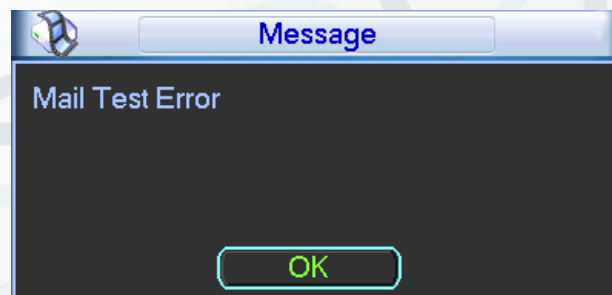

Figure 5-46
- **Interval:** Please check the above box to enable this function and then set the corresponding interval. The System can send out the email regularly as you set here. Click the Test button; you can see the corresponding dialogue box to see the email connection is OK or not (see Figure 5-46).